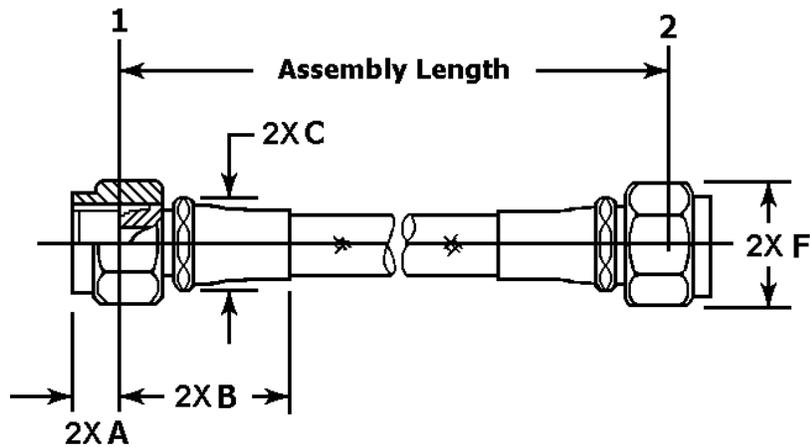

FIGURE 7. Style G hose assembly.
- 2/ Dimensions are shown on figure 7.